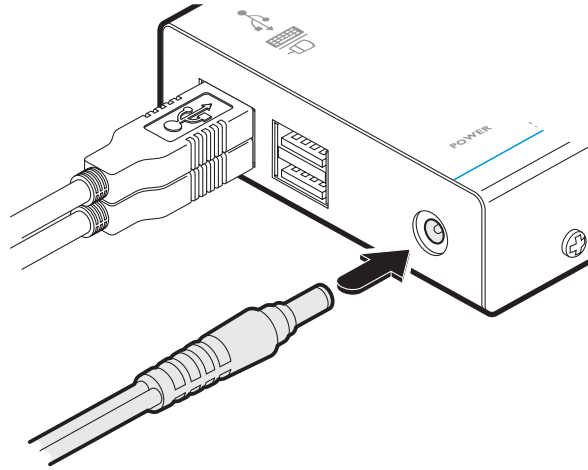

Figure 3-21. Attaching the power adapter connection
- 1 Connect the output lead of the supplied power adapter to the socket labeled **POWER** on the remote module as shown in Figures 3-21 and 3-22: